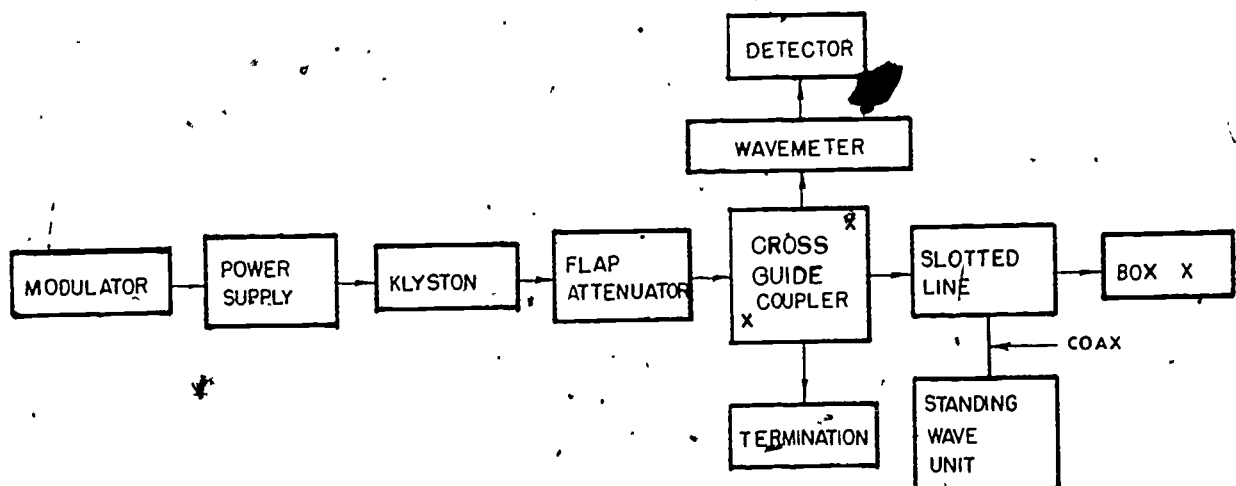

Fig. 1--Setup for Measuring vswr
1. Connect the equipment as depicted in Fig. 1. The box marked "X" will be designated as the particular device that will be tested. Tune up klystron. (At box "X" an open-ended waveguide will be tested so leave the slotted line open for the first measurements.)